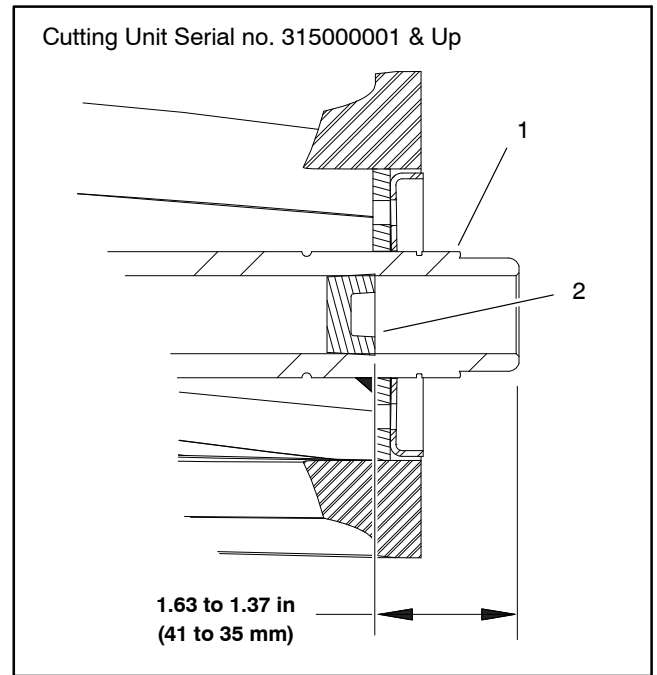

Figure 40
1. If removed, install new reel shaft plugs into cutting reel shaft. For cutting unit serial no. prior to 315000001, make sure plastic plug is pressed flush into end of threaded insert. For cutting unit serial no. 315000001 & Up, make sure plastic plug is pressed unto reel shaft **1.63 to 1.37 in. (41 to 35 mm)** below the end of the shaft (Fig. 40)
3. Make sure that the two (2) retaining rings are fully seated into the grooves on the cutting reel shaft.